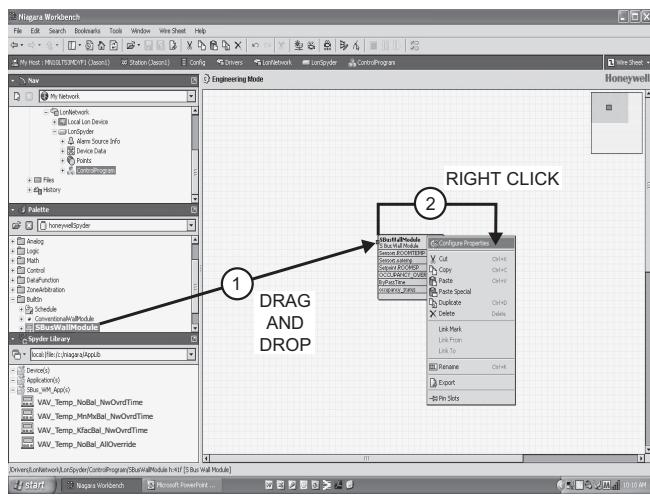

Fig. 3. Niagara Tool Interface - S-Bus wall module selection.
You will use the Sylk S-Bus wall module function block from the Palette's Built-In folder (see Fig. 3). This configuration has nothing programmed except the room temperature parameter and occupancy status.
1. Add the Sylk S-Bus Wall Module function block to the wire sheet via a left click, drag, and drop. See callout 1 in Fig. 3.
2. Right click on the S-Bus Wall Module function block to open the Configuration Properties menu. See callout 2 in Fig. 3.